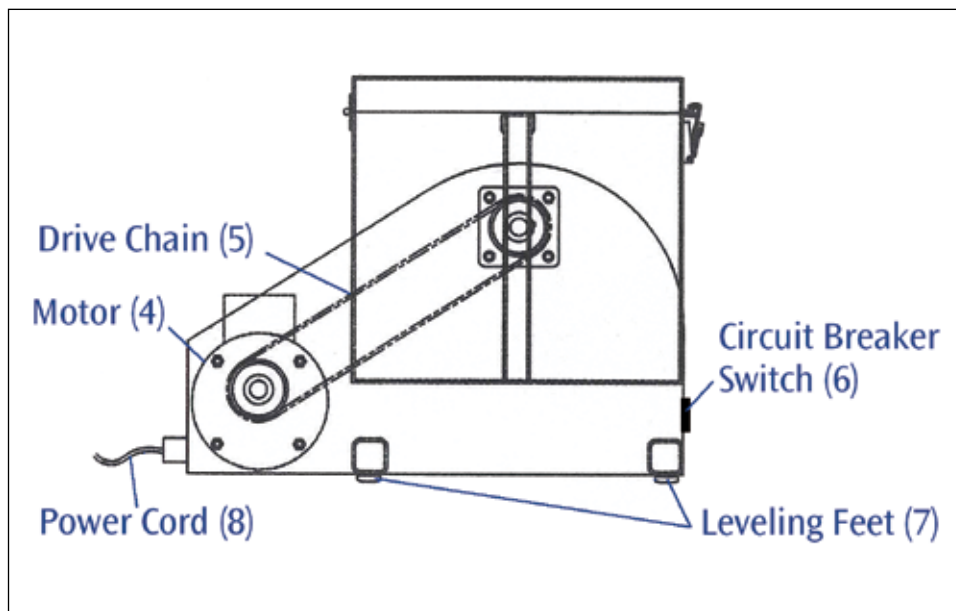

*Figure 1, proper loading sequence*
**⚠ Caution: It is important to offset your load (Refer to figure 1). For example, when you are loading a 12-place unit, and you have 6 bottles to load, avoid putting all six bottles on the front or back side of the box. Put the first bottle in the back left compartment, the second bottle in the second front compartment, the third bottle in the third back compartment and so on.**